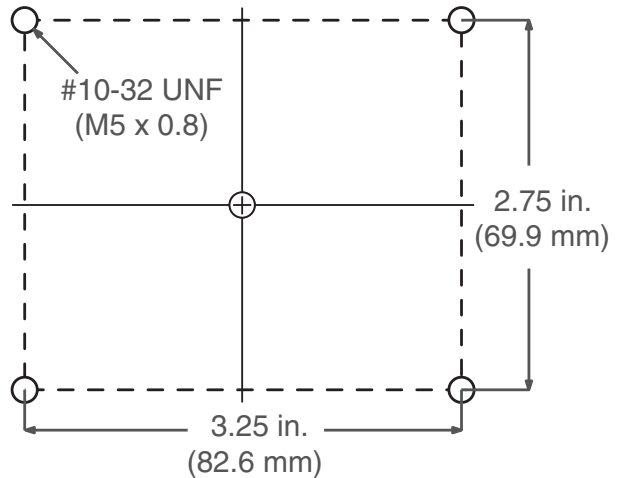

FIG. 23: CGM Mounting Holes
4. Drill the mounting holes using the mounting hole dimensions shown in **FIG. 23**.